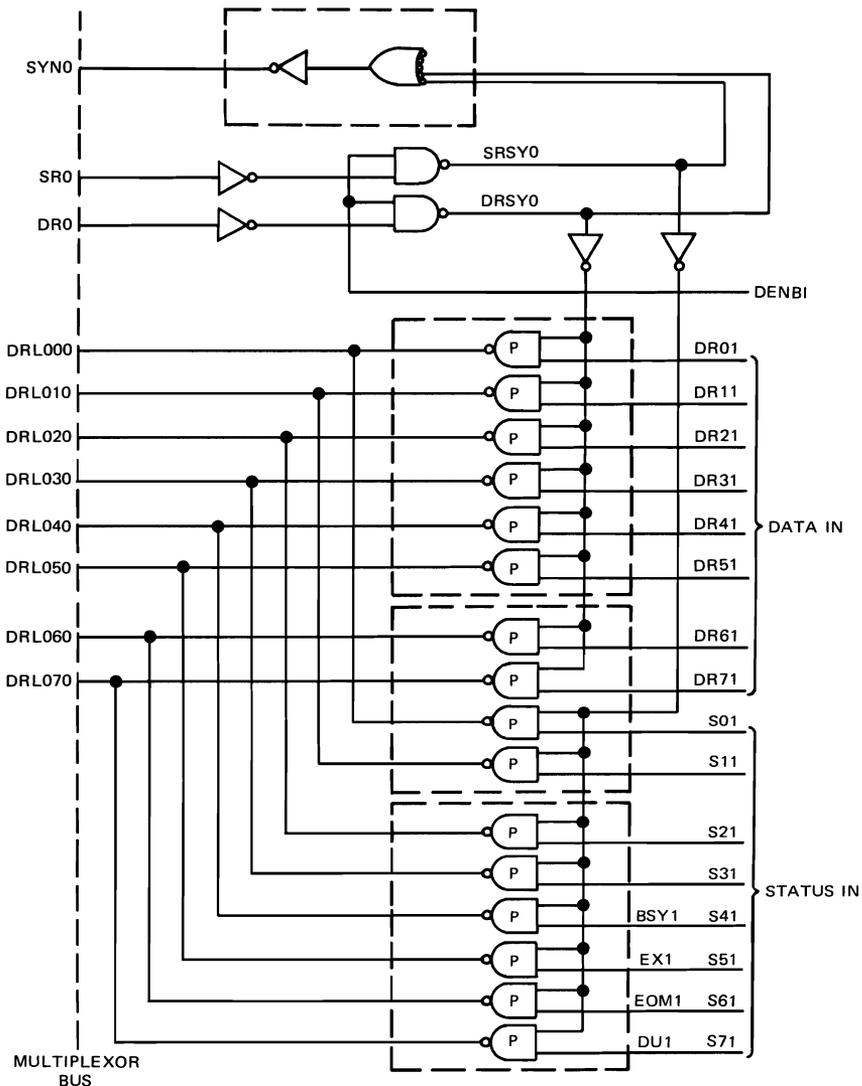

Figure 5-17. Data and Status Input, Logic Diagram
Figure 5-17 shows how a byte of data and status may be read into the Processor. When the device is addressed, DENB1 is high, enabling the Status Request (SR) or Data Request (DR) control line. The SR or DR in turn, enables the Status or Data Bytes onto the Data Request Lines (DRL000 through DRL070). Open collector power gates are used for OR typing multiple data sources onto the DRL lines. A system requirement is that the addressed controller must respond to all control lines with a SYNC. The device controller logic should place a high on BSY1 until the data is ready and settled on the Data Request Lines (DR010 through DR070). The Processor may now be synchronized to the device data rate by testing the device status until the Busy Bit is low. Then, when the Busy Bit is low, the program may transfer data. Device synchronization can also be achieved by generating an interrupt when the data is ready.